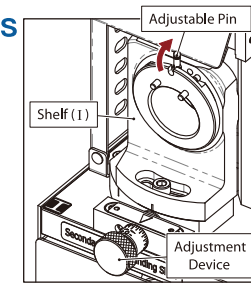

Fig. 5-1
1. Secondary Relief Grinding Shelf (I) (Fig. 5-1)
- ① Move the adjustable pin on the Shelf (I) from the bottom to top.
- ② Adjust the cutting face adjustment device to "0", after finishing the whole sharpening procedure, then adjust this device according to your needs. (See chapter "IV. The use of the Cutting Face Adjustment Device")